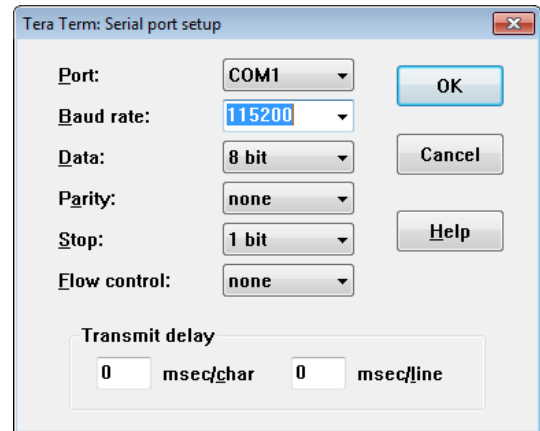

Figure 6: TeraTerm Serial Port Setup
4. Set up the port as shown below and **Figure 6**: